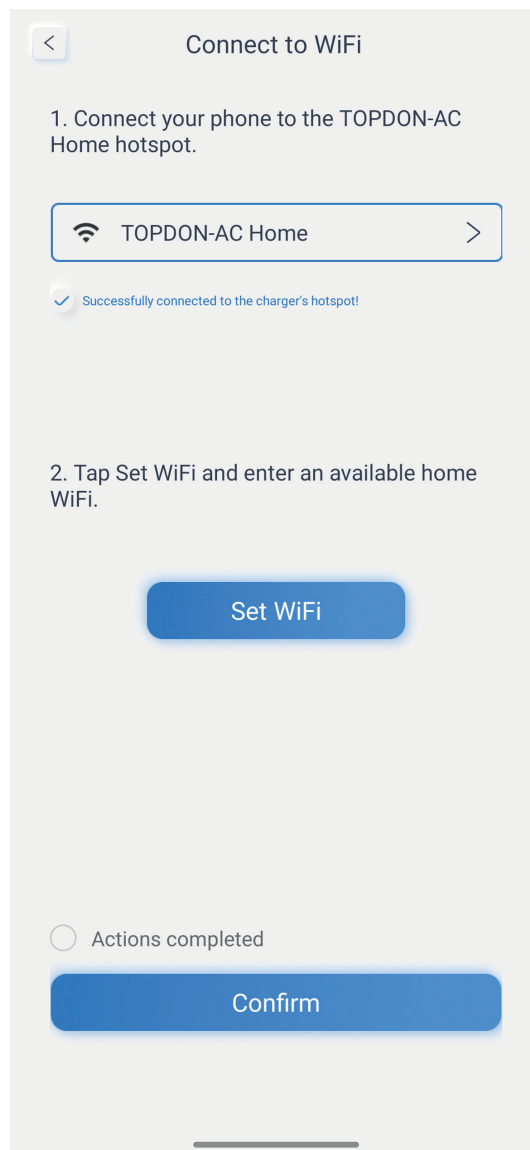

Fig.6.1.8
8. Once the above steps have been done, tap Confirm to complete the procedure. (See Figure 6.1.8)